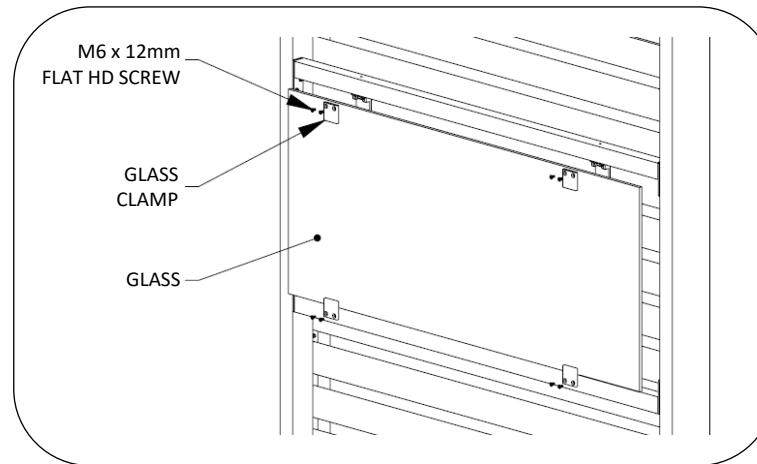

Fig. 4 – INSTALL GLASS
3. Using proper glass handling equipment, position glass panel on clamps. Attach back half of clamps with screws provided, see Fig. 4. Do not overtighten.